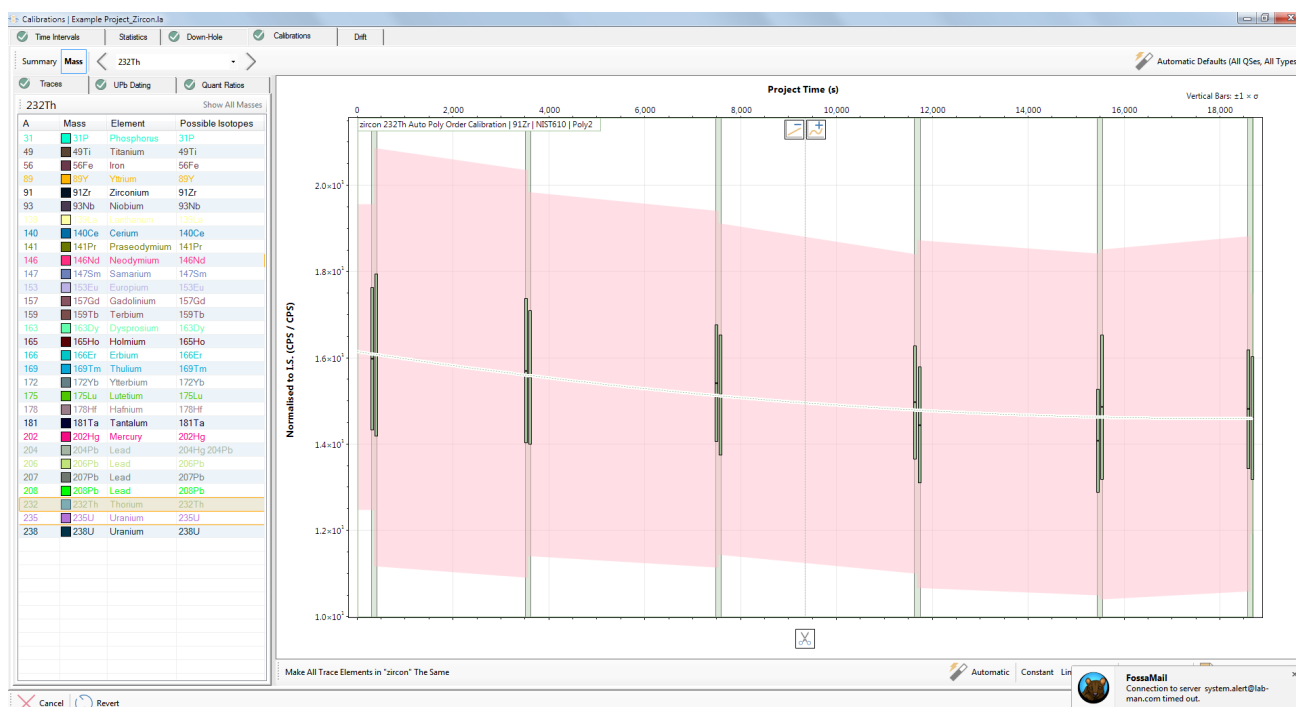

Figure 68 Calibration curve displayed for a single mass (232Th/91Zr on NIST610).
Each mass in the project can be viewed separately by selecting the “mass” button (Figure 68) to show the “drift”, or the time dependent change in the mass (i.e. 24Mg) to internal standard element ratio in the RM for the whole project. ICP–MS instruments can change sensitivity over an analytical session and this change in sensitivity is not the same for all masses. Since there is typically one internal standard element (often of light mass), if there is a change in the relative sensitivities of the light to heavy masses in the ICP–MS, a “drift” correction needs to be applied. This highlights the importance of analysing RMs regularly in a project so that any “drift” in the ICP–MS can be accurately estimated. Review each mass in each QS in the project to check the automatic “drift” fitting equations created by LADR.
3. If steps 1 or 2 do not resolve any anomalous standard values, users may left-click on the standard on the graph in Figure 68 to remove that standard from the generation of a calibration drift curve.